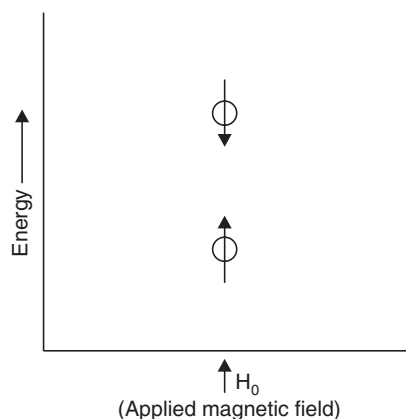
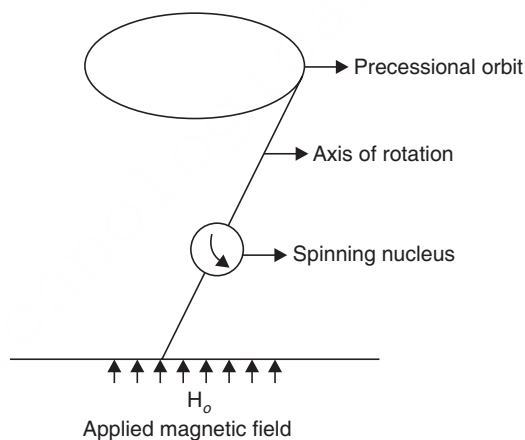

Fig. 24.11 Energy levels of a proton.
Fig. 24.12 Precession.
*nmr* is a powerful analytical technique to evaluate the structures of carbon compounds. The technique is used (i) to identify unknown compounds, (ii) to check for impurities and (iii) to study the shapes of molecules. In medicine, magnetic resonance imaging uses *nmr* to detect the hydrogen nuclei in the human body, especially in water and lipids. The term 'nuclear' interprets the technique that detects nuclei of atoms such as hydrogen-1 (proton). The term 'magnetic' interprets the nuclei that act like tiny magnets that can line up either in the same direction or in the opposite direction to an external magnetic field. The term 'resonance' is the absorption of energy in the form of radio waves with the frequency corresponding to the size of energy jump as the nuclei flip from one alignment in a magnetic field to the other (Fig. 24.11).
Thus a proton (I =  $\frac{1}{2}$ ) can assume only one of the two possible orientations corresponding to the energy level of  $\pm \mu H_0$ . One with respect to the direction of the applied magnetic field and the other is aligned against the direction of the applied field (Fig. 24.11).
Unless the axis of the nuclear magnet is oriented exactly parallel or antiparallel with the applied magnetic field (Fig. 24.11), there will be a certain force by external magnetic field to so orient the spinning nucleus. But because the nucleus is spinning, the effect is that its rotational axis draws a circle perpendicular to the applied field. Such an effect is shown in Fig. 24.12. This motion of the nucleus is called **Precession**.